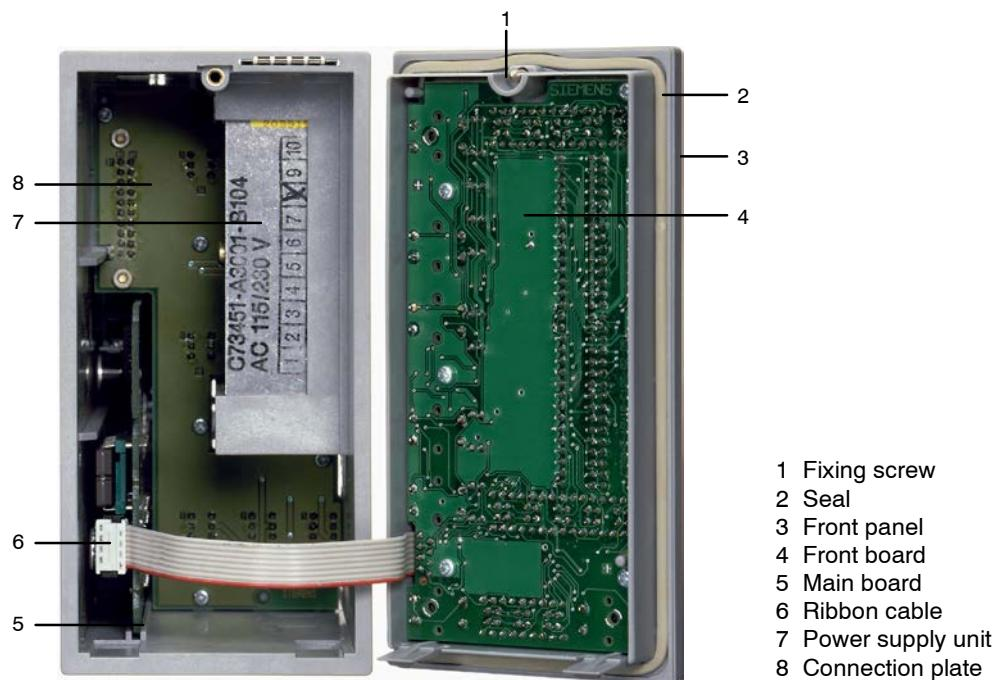

Figure 5-2 Controller with front module open
- Pull off the plug from the ribbon cable (see (6) Figure 5-2, page 170).